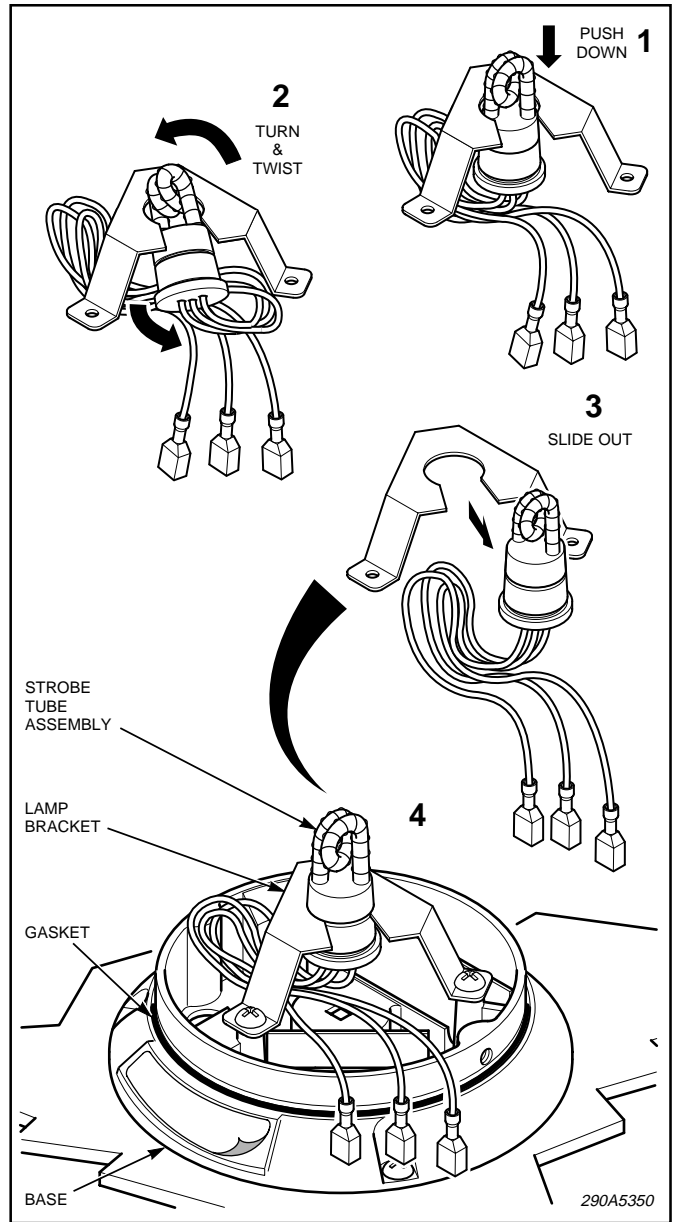

Figure 3.
4. See figure 3. Gently push the silicone rubber base of the strobe tube down toward the metal base, and then carefully slide it out through the slot in the metal bracket.
5. See figure 3. Slide the new tube through the slot into the round center of the bracket, and then push the tube up into its position by pressing the rubber base from the bottom. If the strobe tube is difficult to insert, remove it and apply a high temperature grease, or Vaseline, to the rubber edge of the strobe tube and try again.
6. Connect the red, white, and black wires to the appropriate quick connect terminals. Ensure that the wires are looped to the left as shown in figure 3.